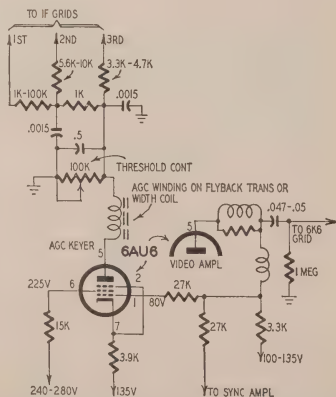

Fig. 2—This keyed a.g.c. circuit improves performance of old 630 receivers.
2. Disconnect the picture control circuit and the bias line to the first, second and third video i.f. amplifier grids and install a 6AU6 keyed a.g.c. circuit as in Fig. 2.